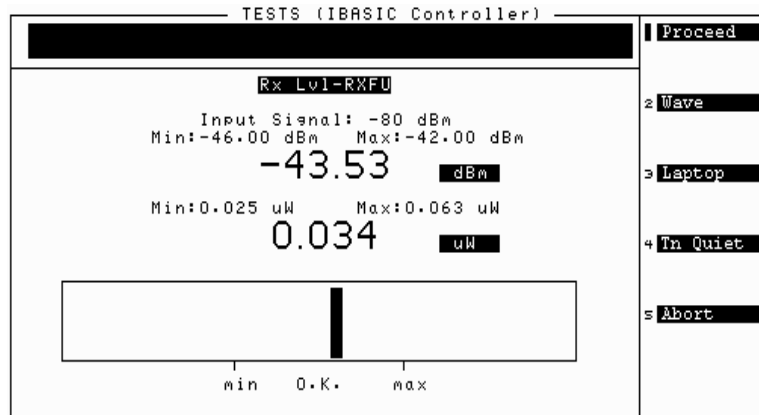

Figure 20 Power Meter Screen for RX Level - RXFU Measurement
1. If you set the Use Power Meter Screen When parameter to None or if you press k1 (Proceed) on the power meter screen (see **figure 20 on page 80**), the Test Set will show the test result table on the display when the testing is complete. If the measurement results fall outside the specified limits, the measurement will fail. A failure is indicated by an F in the P/F column.